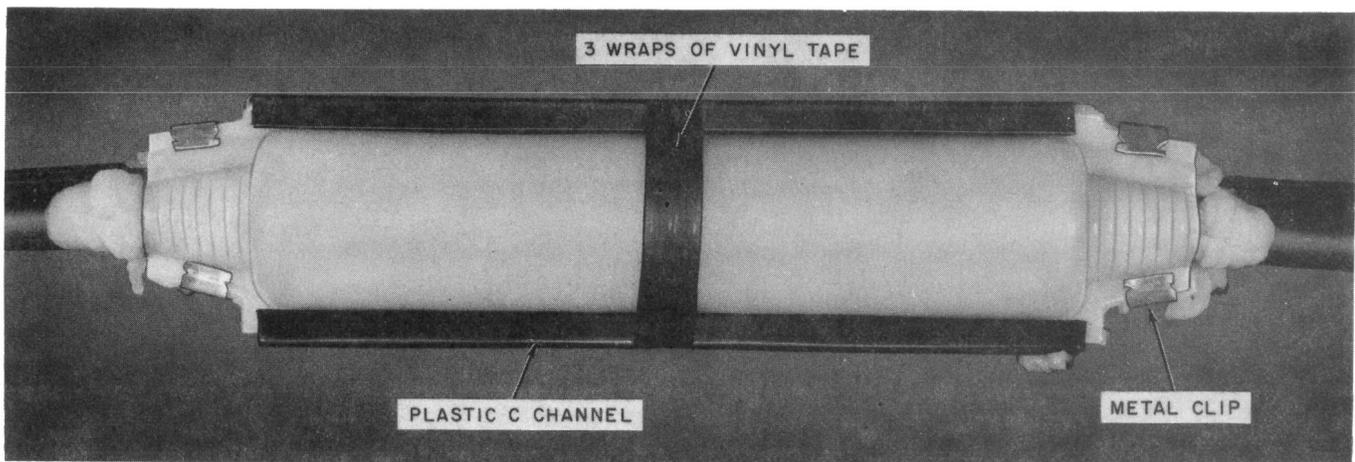

Fig. 18—Completed Installation
3.19 Apply three wraps of vinyl tape or cable tie around the closure as shown in Fig. 18.